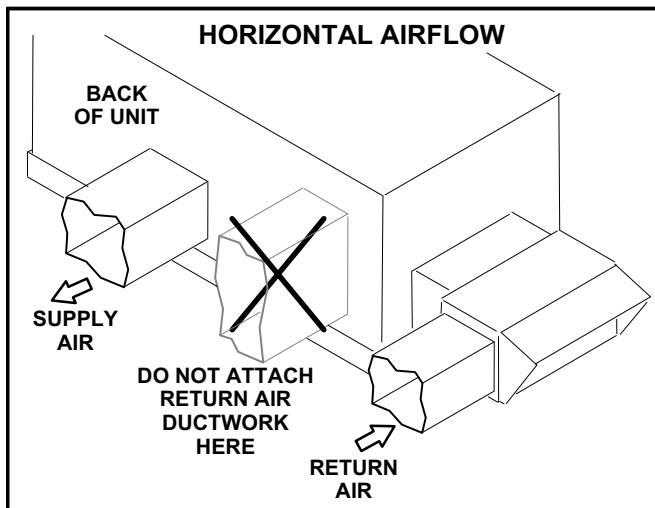

FIGURE 12
- 3- Make sure the horizontal return air cover on the back side of the unit remains in place. The opening is used when an economizer is not installed. See figure 12.